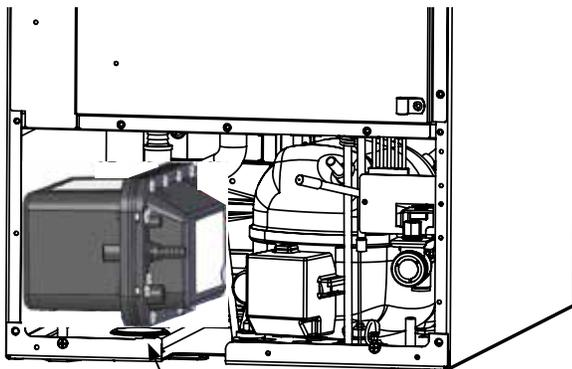

Figure 42
4. Unscrew the 3 hose clamps and remove the 3 hoses from the front of the drain pump. (See Figure 42).
6. Rotate the drain pump and remove from the ice machine, (See Figure 42). It may be necessary to disconnect the ground wire connection in the back flange of the cabinet. (See Figure 38).